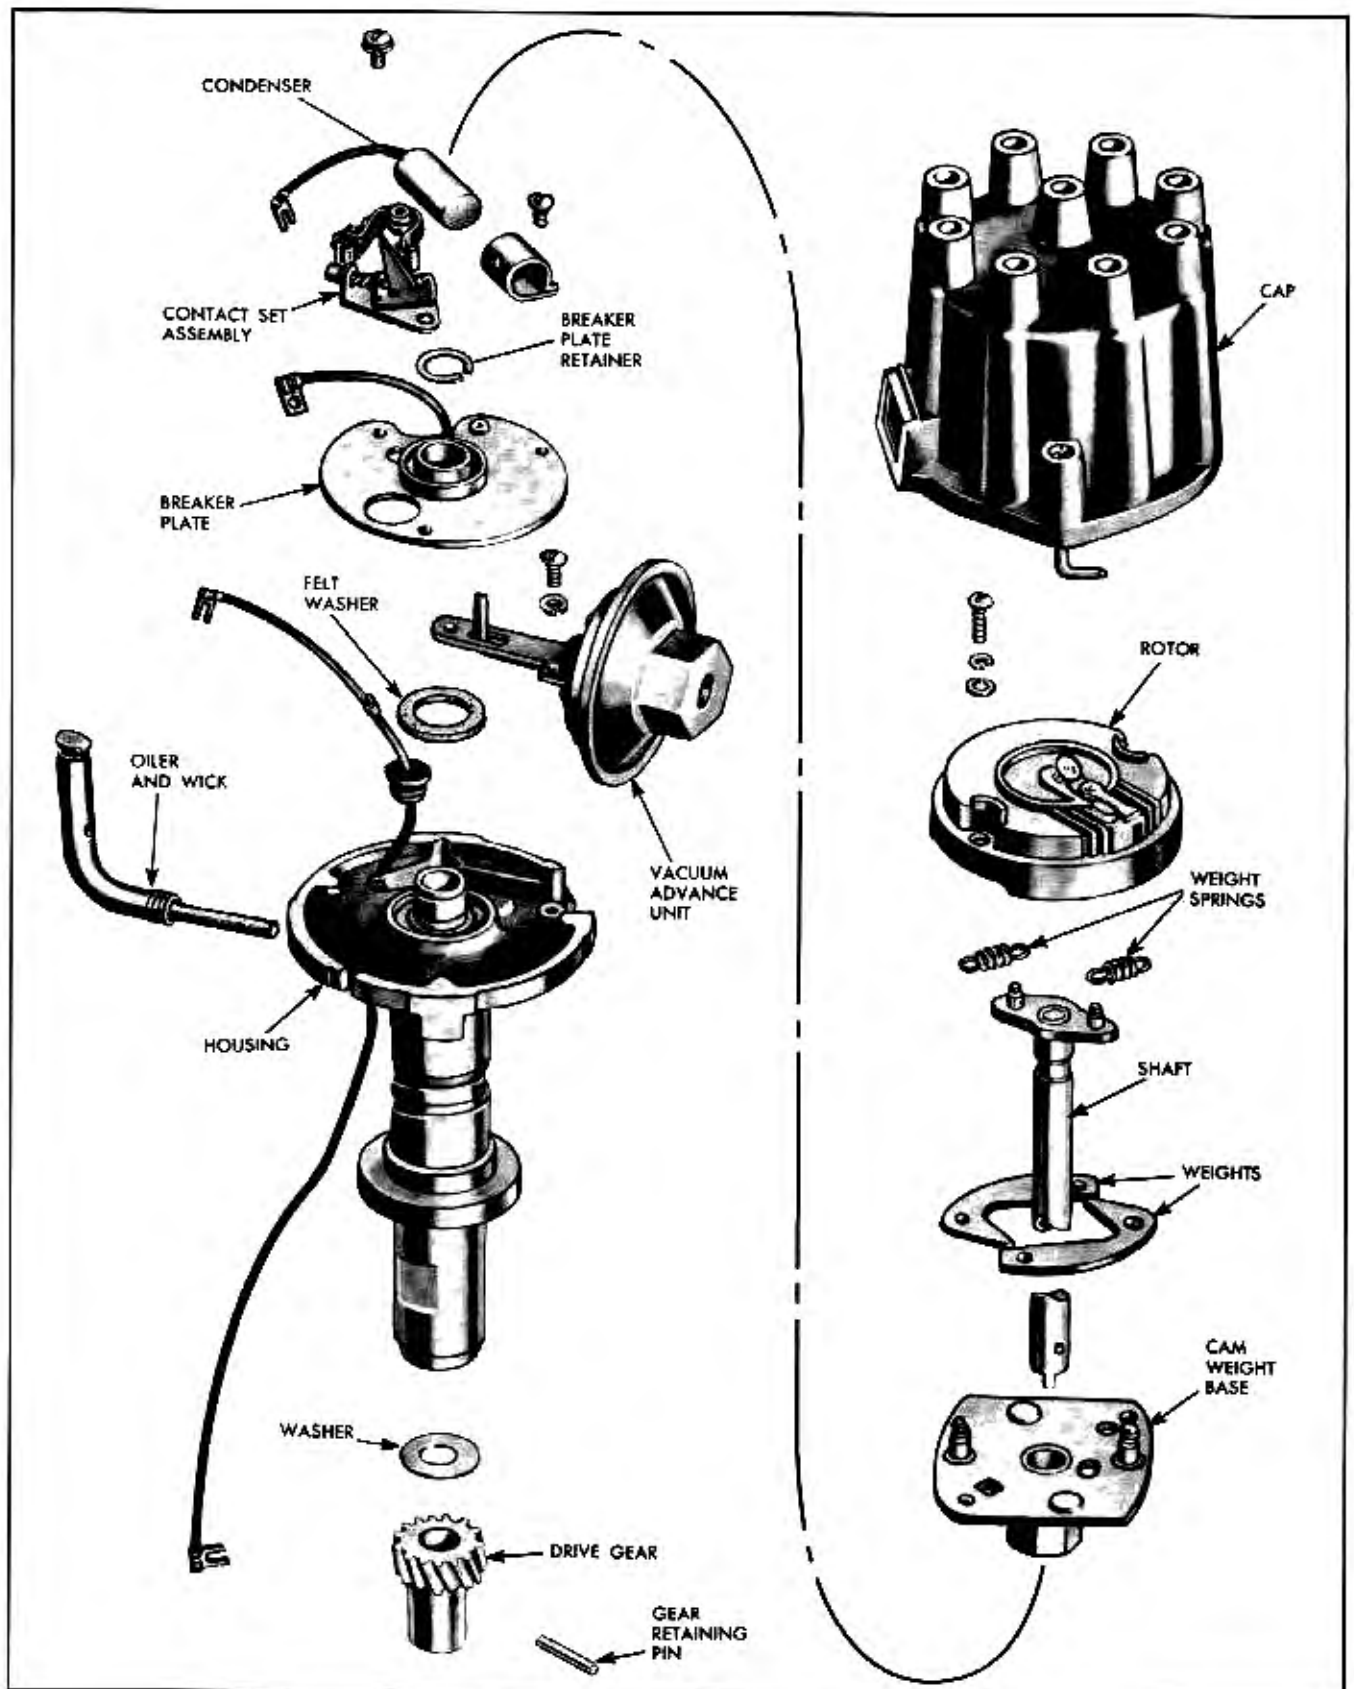

Fig. 12-57 Exploded View of Distributor
1. Remove the rotor by removing the two attaching screws, lockwashers, and flat washers (Fig. 12-57). **NOTE:** It will be observed that the rotor is doweled to the weight base so that it can be installed in only one position.